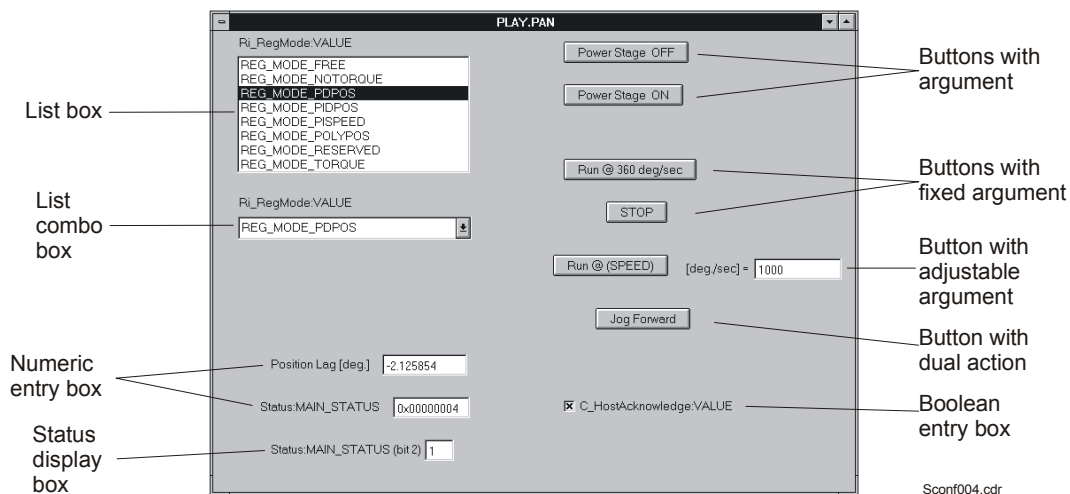

Figure 3 Control Panel with Component Types Identified
This section describes the components of a control panel and their operation. Figure 3 illustrates a sample control panel containing each of the available control panel component types with each component type labeled. Each of the panel component types is described in the following paragraphs.
**Button** - Clicking on a button initiates one or more specific, pre-programmed actions. A button may operate in any of several ways depending on how it is specified in the control panel. The possibilities (see Figure 3) include buttons having no argument, buttons with fixed arguments (built into the button specification), buttons with an adjustable argument whose value is taken from a numeric entry box, and dual action buttons which produce an action when depressed and an action when released.